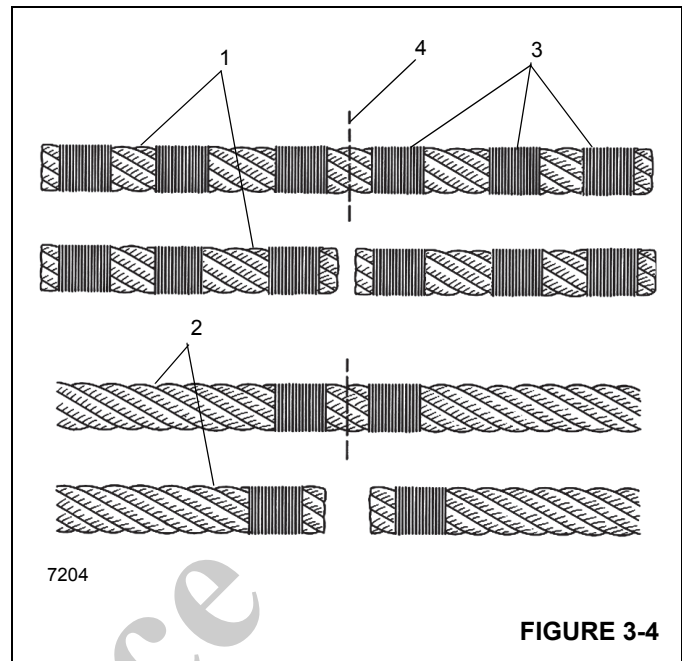

FIGURE 3-4
NOTE: Non-preformed wire rope (1) Figure 3-4 should have three seizings (3) located on each side of the cut (4) as compared to preformed wire rope (2).